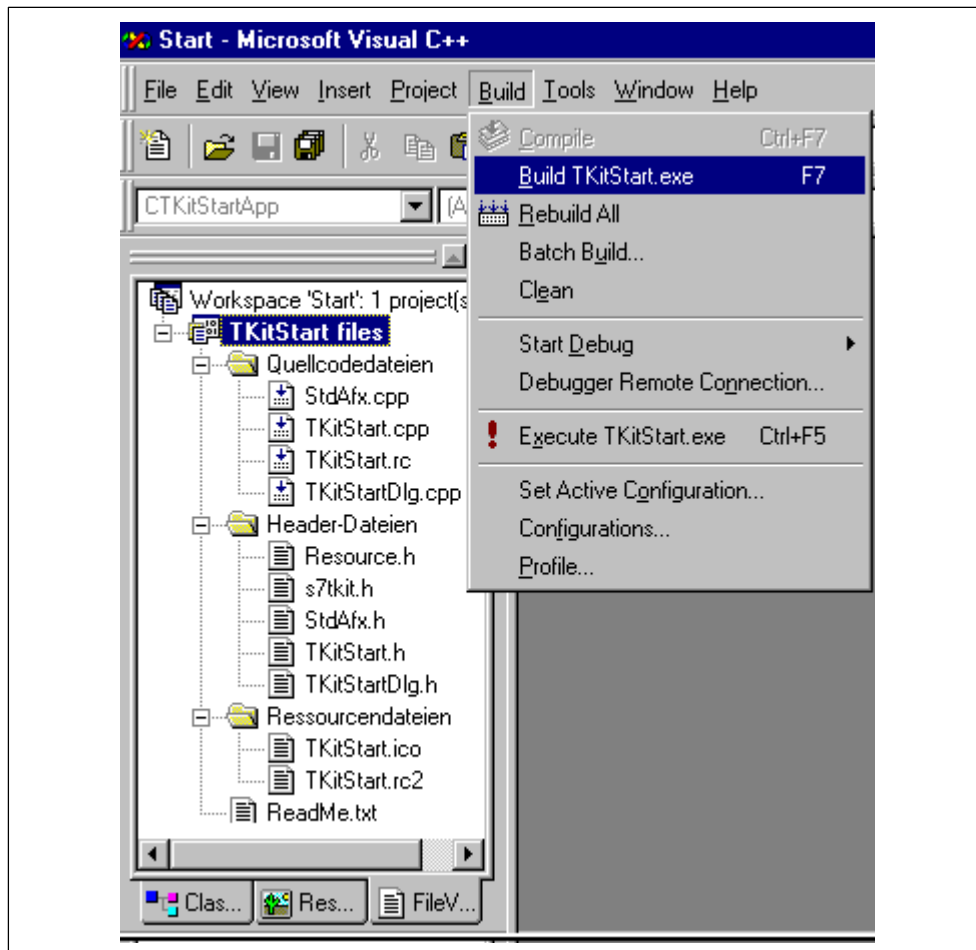

Figure 3-3 Create the TKitStart.exe File
- C++ program consisting of header, source code and resources files (refer to Figure 3-3).